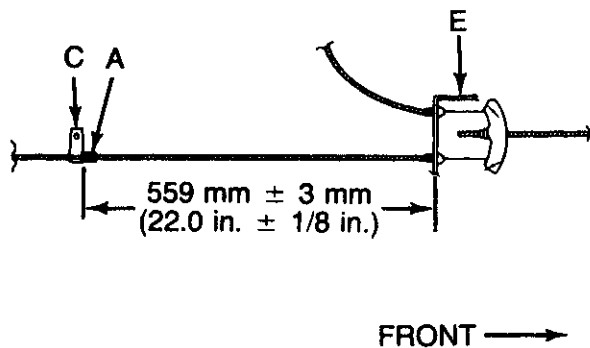

Fig. 2
3. Measure 559 mm $\pm$ 3 mm (22.0 in. $\pm$ 0.125 in.) back from the parking brake cable mounting bracket (E) and snap the locating clip (A) over the parking brake cable (Fig. 2).